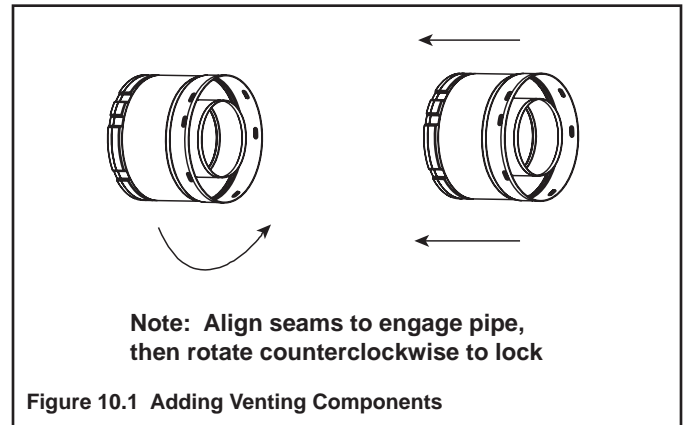

Figure 10.2 High Temperature Silicone Sealant (149 °C minimum continuous exposure rating)
- Apply a bead of silicone sealant inside the female outer pipe joint prior to joining sections. See Figure 10.2